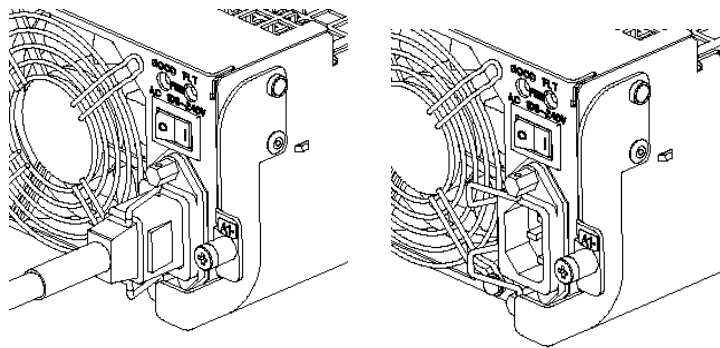

Figure 3-17. Removing the Power Cord
3. Unlatch the power cord retainer clip as shown in Figure 3-17 to release and unplug the power cord.